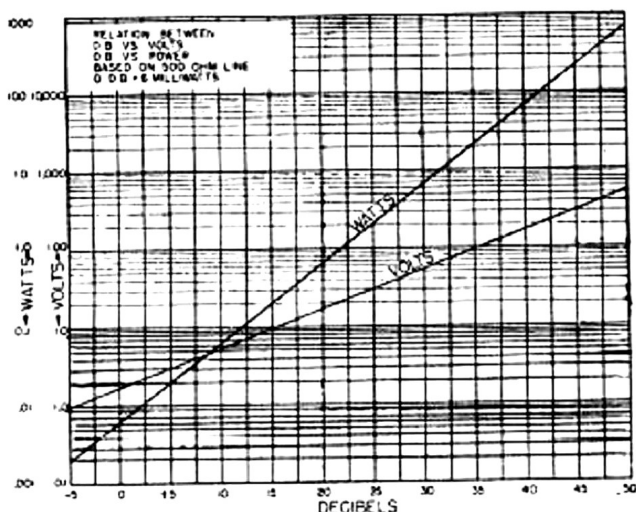
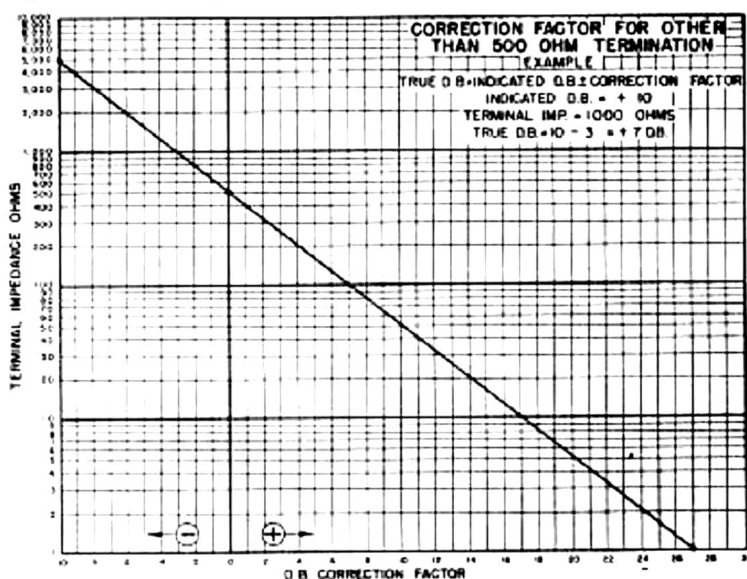

Figure 3.2 - DB-Voltage Conversion Chart
Figure 3.3- Correction Factor for Other Than 500 Ohm Termination
b. Read the decibel level from the upper scale or the a-c voltage from the lower scale of the meter. A conversion chart, which evaluates the decibel or voltage reading in terms of power is given in Figure 3.2. When the termination is other than a 500 ohm termination, use the correction factor chart given in Figure 3.3.
c. The decibel or voltage value may be easily converted to a power reading by simply locating the known value on the correct curve and determining the associated power reading. The decibel meter is calibrated in terms of a matching load of 500 ohms. If the load across which measurement is to be made is other than 500 ohms, a correction factor is needed. The correction factor chart, shown in Figure 3.3, will enable the user to determine this factor in terms of db.